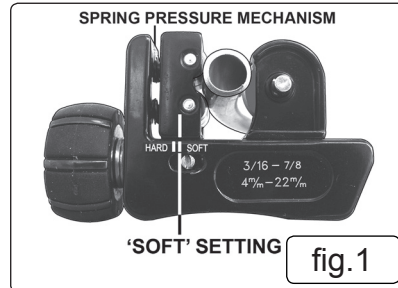

fig.1
- 4.2. If the pipe to be cut is of a soft formulation, increase the pressure until the mark on the side of the sprung roller mechanism lines up with the 'SOFT' marking on the main body as shown in (fig.1).